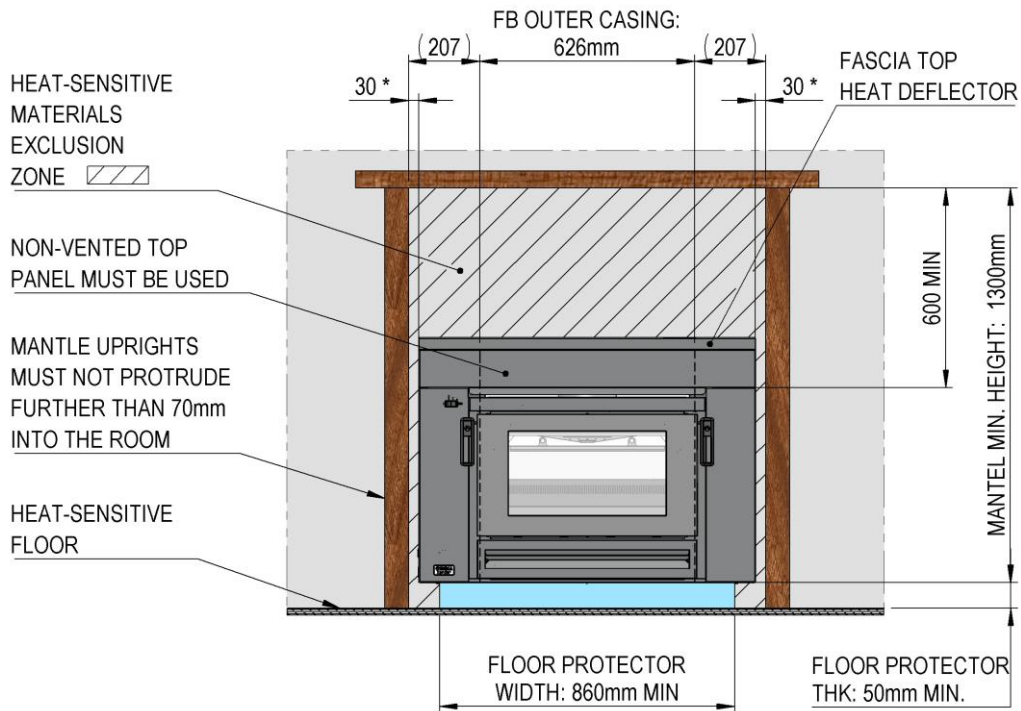

Fig. 5
- E1.** Non-combustible front cladding **must be used**, to a minimum of 600mm above the top-most panel vent, and a minimum of 30mm either side of the fascia (207mm either side of the outer casing of the firebox. (Fig. 5)